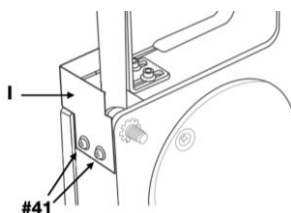

Fig. 17
2. Remove the lower belt guard (I) using the screws (#41) (Fig. 17).